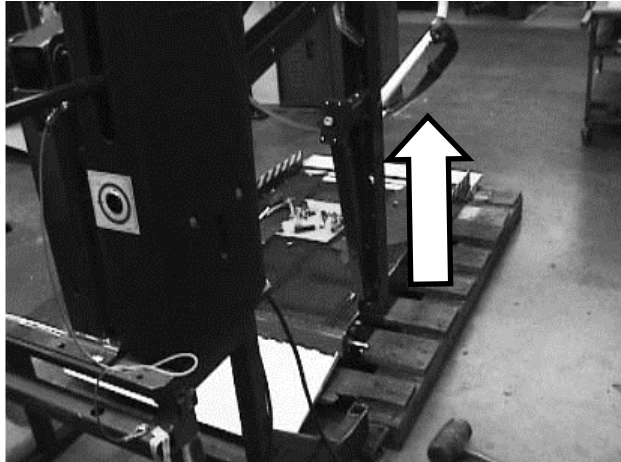

Figure 13. Raise Left Vertical Arm
14. Refer to **Figure 13**. Close the release valve then pump to raise left vertical arm from platform.